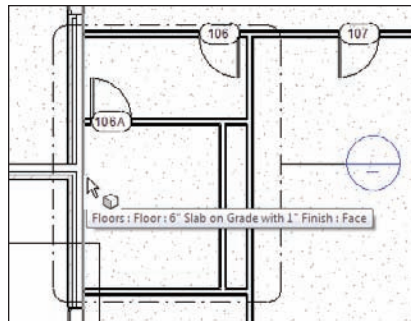

FIGURE 6.40 Finding the edge of the floor
3. Move your cursor into the lavatory area, as shown in Figure 6.40.
4. Notice there is a little cube at your cursor. Hover your cursor over the wall shown in Figure 6.40. You should get a tooltip telling you that you are directly over the floor. When you see this indication, pick the floor.